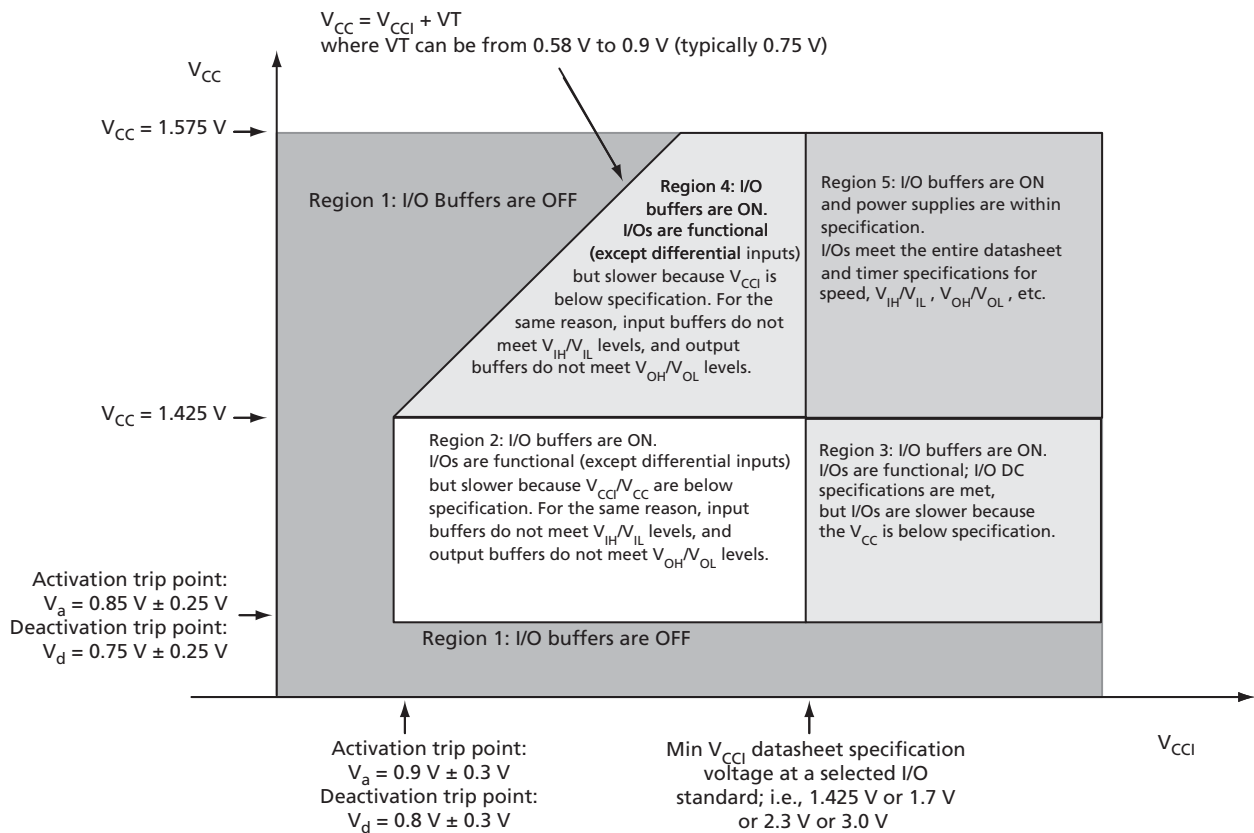
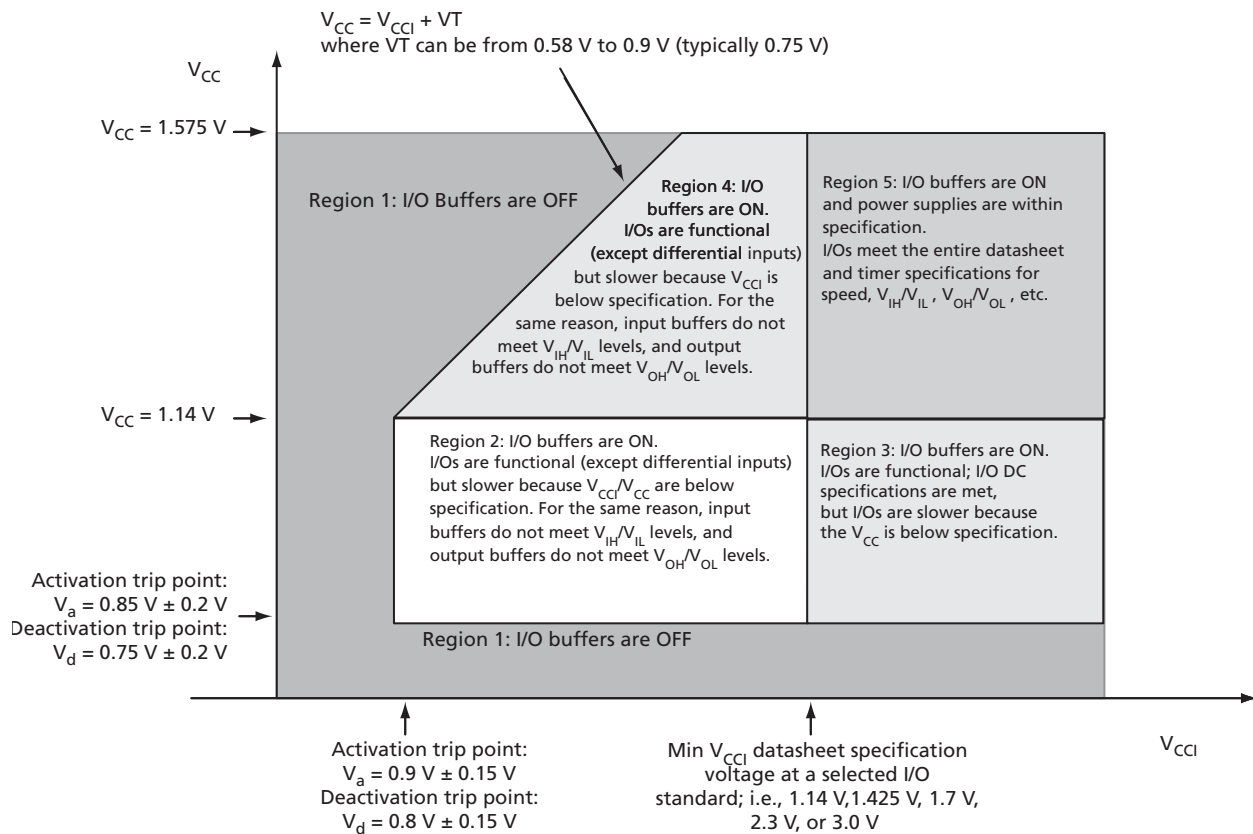

Figure 2-1 • V5 – I/O State as a Function of V_{CCI} and V_{CC} Voltage Levels
Figure 2-2 • V2 Devices – I/O State as a Function of V_{CCI} and V_{CC} Voltage Levels
Sophisticated power-up management circuitry is designed into every IGLOOe device. These circuits ensure easy transition from the powered-off state to the powered-up state of the device. The many different supplies can power up in any sequence with minimized current spikes or surges. In addition, the I/O will be in a known state through the power-up sequence. The basic principle is shown in Figure 2-1 on page 2-4 and Figure 2-2 on page 2-5.
1. V_{CC} and V_{CCI} are above the minimum specified trip points (Figure 2-1 on page 2-4 and Figure 2-2 on page 2-5).
Actel recommends using monotonic power supplies or voltage regulators to ensure proper powerup behavior. Power ramp-up should be monotonic at least until V_{CC} and V_{CCPLX} exceed brownout activation levels. The V_{CC} activation level is specified as 1.1 V worst-case (see Figure 2-1 and Figure 2-2 on page 2-5 for more details).